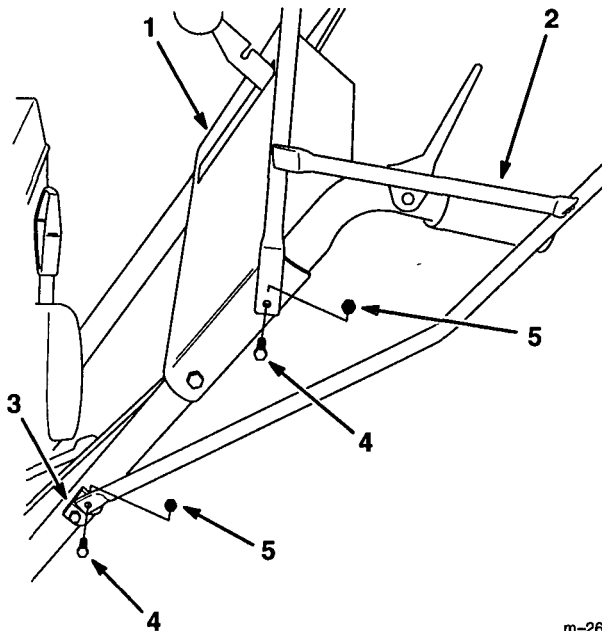

Figure 2
1. Fasten the top of the left bracket to the top left control panel mounting hole using the existing 1/4"-20 hex head bolt and locknut (Fig. 2).
2. Fasten the bottom of the left bracket to the top hole in the upper chute crank bracket using the existing 1/4"-20 hex head bolt and locknut (Fig. 2).